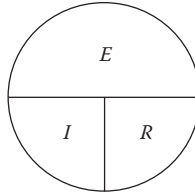
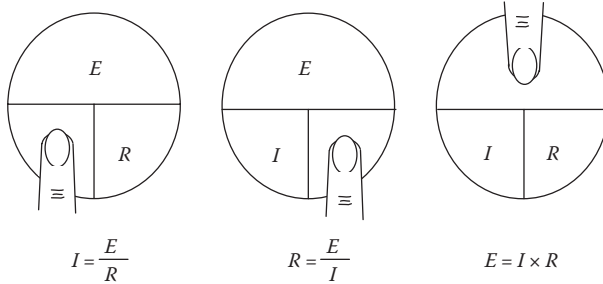

FIGURE 10.3 Ohm's law circle.
FIGURE 10.4 Putting Ohm's law circle to work.
Recall that, if we know any two quantities (E , I , or R), we can calculate the third. In many circuit applications, current is known and either the voltage or the resistance will be the unknown quantity. To solve a problem in which voltage (E) and resistance (R) are known, the basic formula for Ohm's law must be transposed to solve for I . The Ohm's law equations can be memorized and practiced effectively by using an Ohm's law circle (see Figure 10.3). To find the equation for E , I , or R when two quantities are known, cover the unknown third quantity with your finger, ruler, or piece of paper as shown in Figure 10.4.